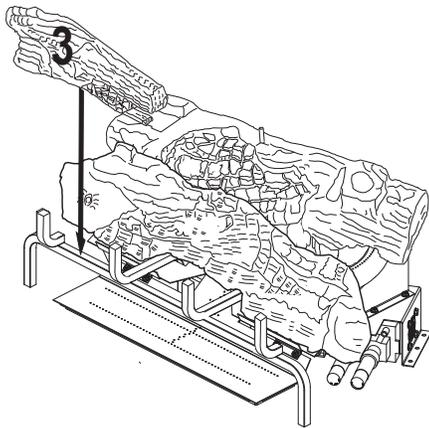

Figure 24 - Installing Log # 3
3. Place the front left log (#3) onto the base assembly between the middle log (#2) and the grate fingers. The back of the front left log (#3) will rest against the front of the middle log (#2). The notch at the end of the front left log (#3) will fit around the grate bar. See **Figure 24**.